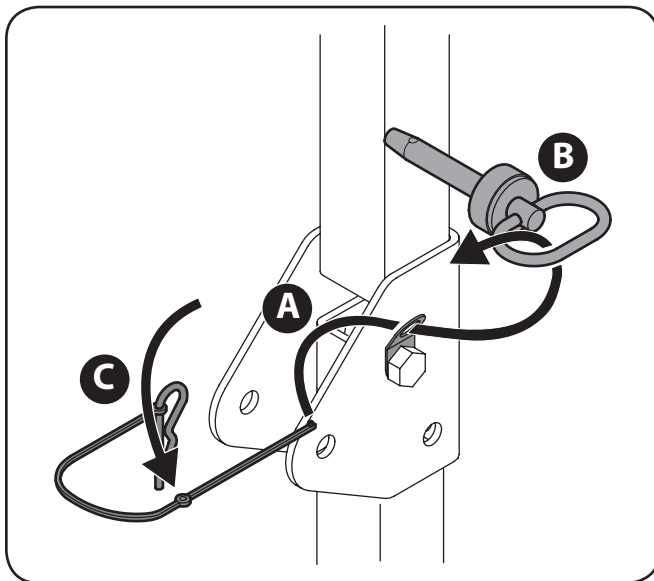

Figure 3-6
7. Route the nylon lanyard as shown in Figure 3-6. Be sure to secure the lanyard to the retaining clip and clevis pin.